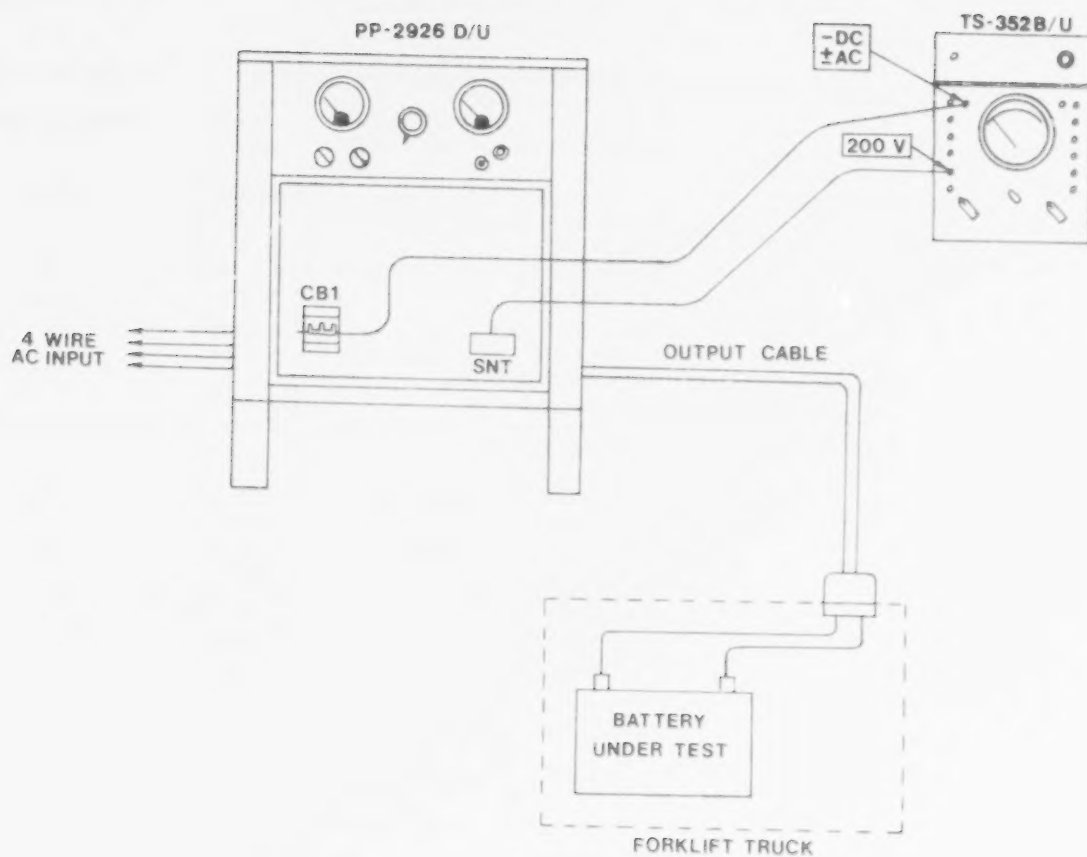

Figure 6-5. Performance Test Setup. EL6FX015
- (1) Multimeter TS-352B/U.
- (2) Known good 18-cell lead-acid battery in discharged state (specific gravity less than 1.190).
b. *Test Connection and Conditions.* Connect the equipment as shown in figure 6-5. Do not turn on input power to the PP-2926D/U until instructed to do so in 1e below. This test is for operation of the PP-2926D/U at 208-volt, three-phase input power.